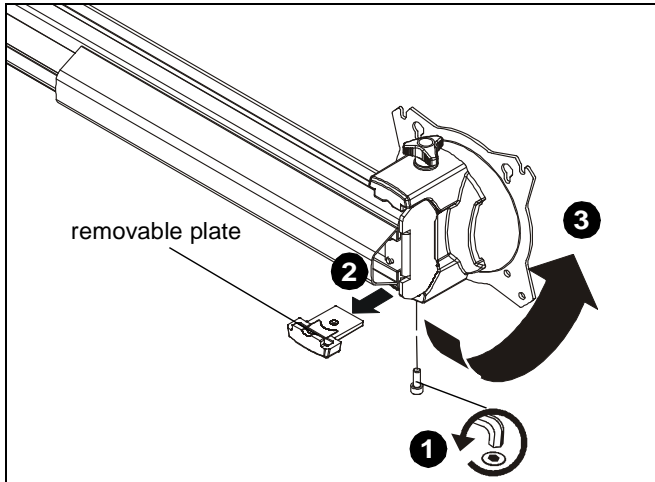

Figure 20
1. Remove hex head bolt from bottom of faceplate assembly. (See Figure 20)
2. Slide out removable plate from bottom of faceplate assembly. (See Figure 20)
3. Remove faceplate assembly from array arm. (See Figure 20)